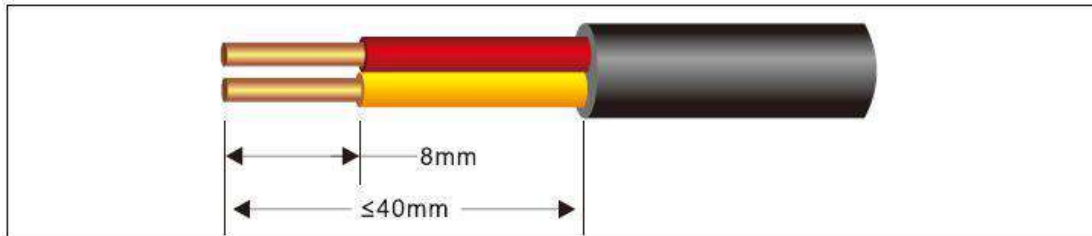

Figure 5.20 Stripping an RS485 communications cable (unit: mm)
Step 1 Remove an appropriate length of the insulation layer from the cable using a wire stripper, as shown in Figure 5.20.